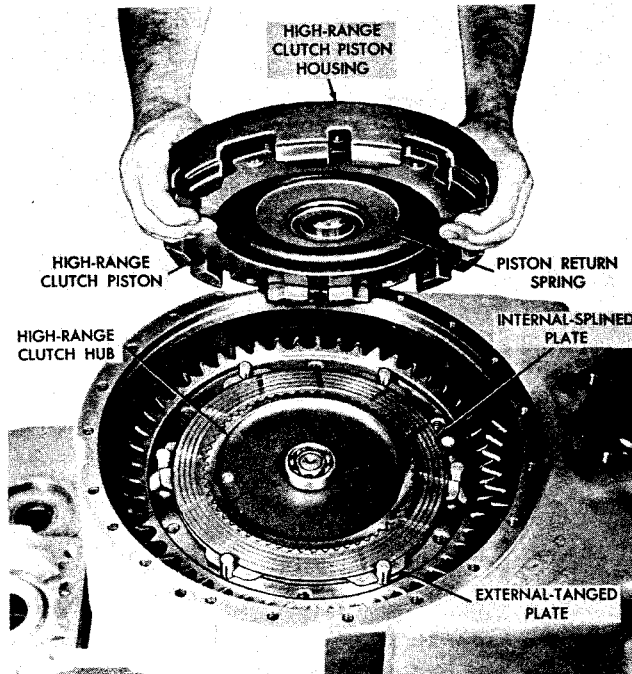

Fig. VII-4. Installing high-range clutch piston and housing
(3) Install high-range clutch hub 7 (A, foldout 6), ball bearing 8, and snap ring 6 (fig. VII-4).
(4) Install two internal- and two external-tanged clutch plates starting with an internal plate (fig. VII-4).
(5) Install high-range clutch piston housing, piston and associated parts (fig. VII-4).
(9) Install the high-range hub (with snap ring in place), clutch plate, piston and housing assembly (fig. VII-4).